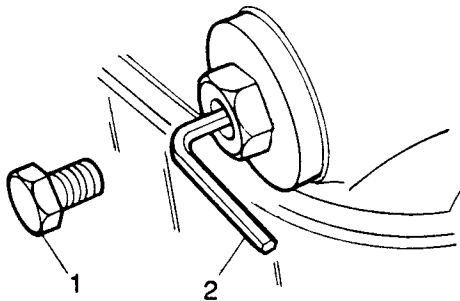
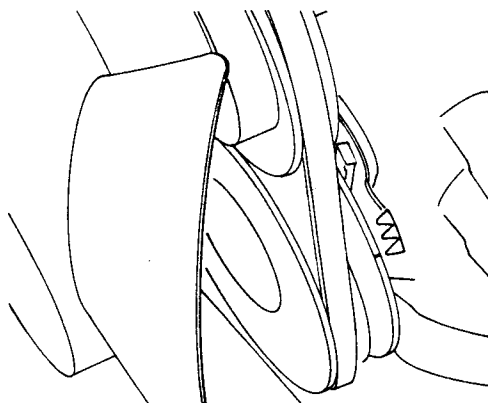

Fig B4.40
Fig B4.48
- (2) Refer to Fig B4.40. Retract the timing chain tensioner by removing the chain tensioner adaptor screw (1), fitting a 3,17 mm allen key (2) and turning the key 90° clockwise.
- (11) Refer to Fig B4.48. Set the crankshaft pulley timing mark to the TDC position with No 1 cylinder firing (rotor pointing to No 1 cylinder take-off and points opening).
- (12) Fit the timing chain over the (loose) camshaft sprocket, maintaining the aligning marks.
- (13) Fit the camshaft sprocket with the chain, onto the camshaft.
- (14) Fit and tighten the securing bolt to 37 N.m.
- (15) Release the chain tensioner by turning the Allen key (Fig B4.40) 90° counterclockwise.
- (16) Replace the camshaft cover and gasket (see Sub-section B4, Chapter 11).